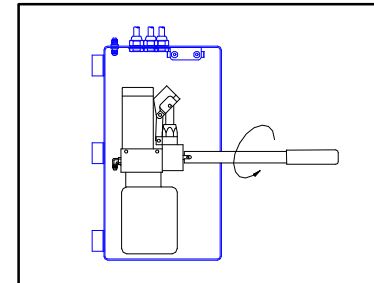

FIGURE 2-11: LIFT OPERATION – PLATFORM MANUAL LOWERING
- ◆ Refer to **Figure 2-11**. Insert the pump handle extension onto manual backup pump release valve. Make sure the notches at the end of the handle are fully engaged by the release valve pin. Slowly twist the handle 1/4-turn COUNTER-CLOCKWISE until the lift platform begins to lower.